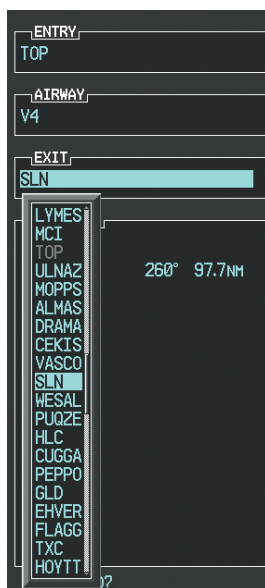

Figure 5-108 List of Available Exits for V4
h) Press the **ENT** Key. The list of available exits for V4 is now displayed as in Figure 5-108.
- i) If necessary, turn either **FMS** Knob to select the desired exit. In this case Salina VOR (SLN) is selected as in Figure 5-108.